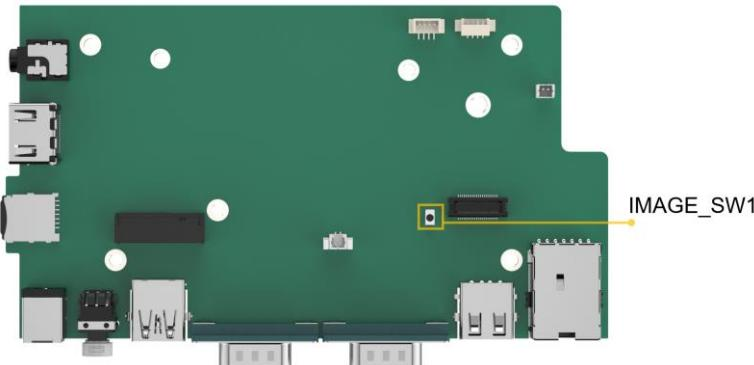

Figure 3-13: IMAGE-SW1 Location
Step 3: Press and hold the IMAGE_SW1 button while powering on the device (**Figure 3-13**).